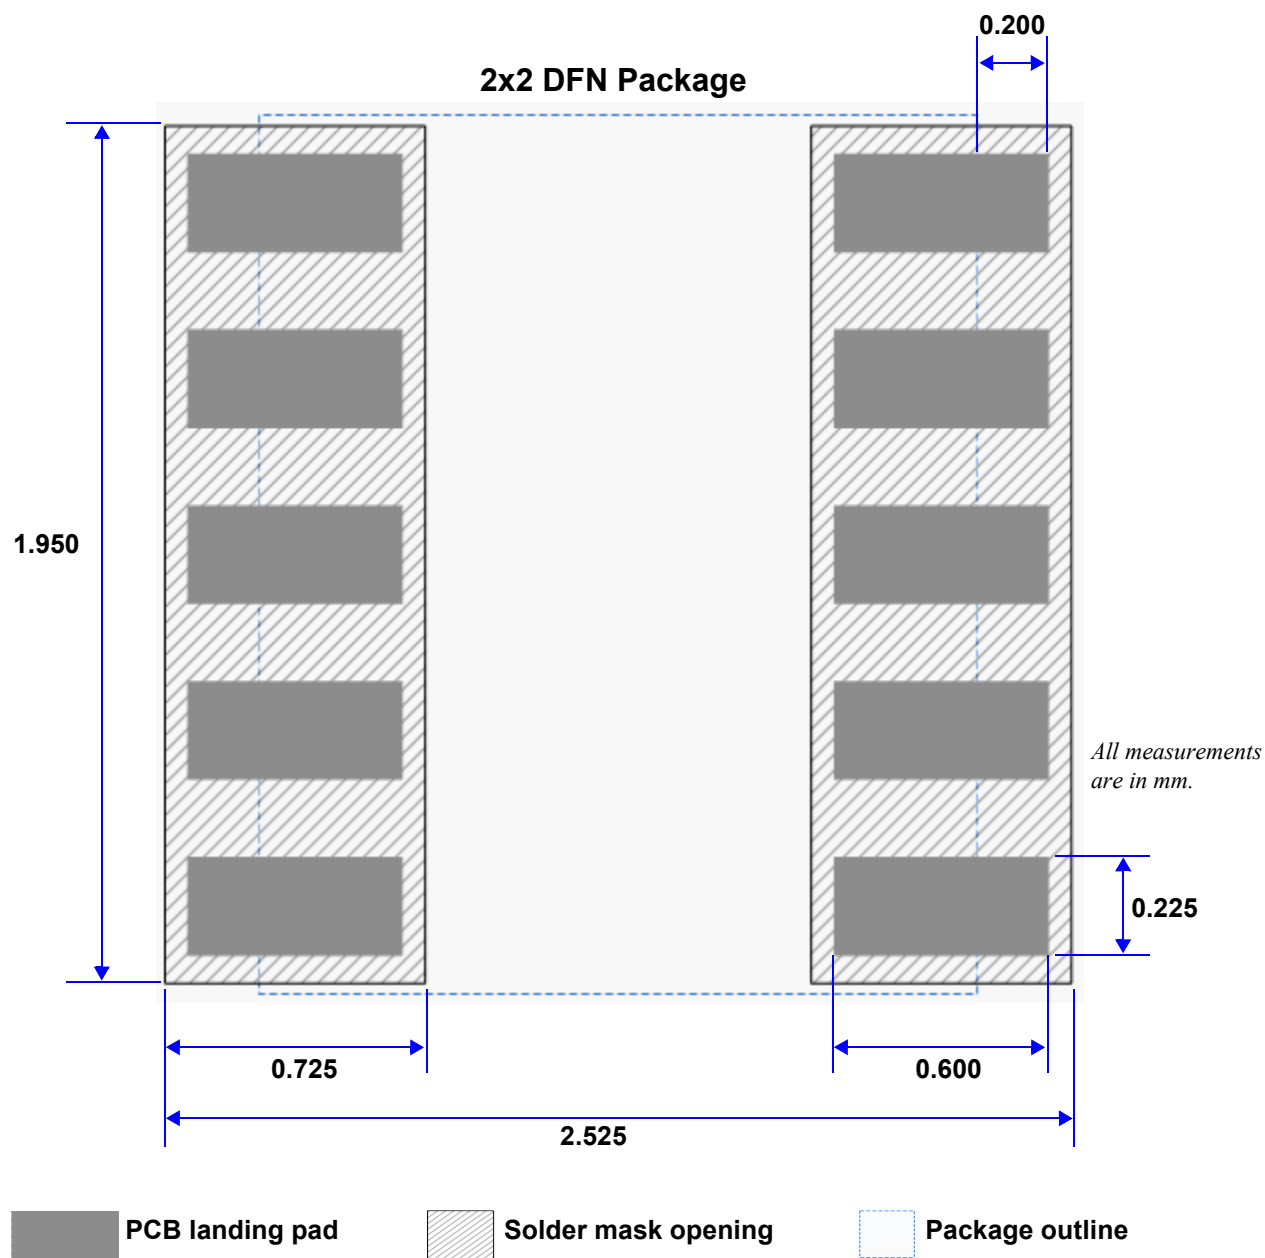

Figure 16. Package mounting measurements
1. The PCB land should be designed as Non Solder Mask Defined (NSMD) as shown in Figure 16.
3. PCB land pad is 0.6 mm x 0.225 mm as shown in Figure 16.